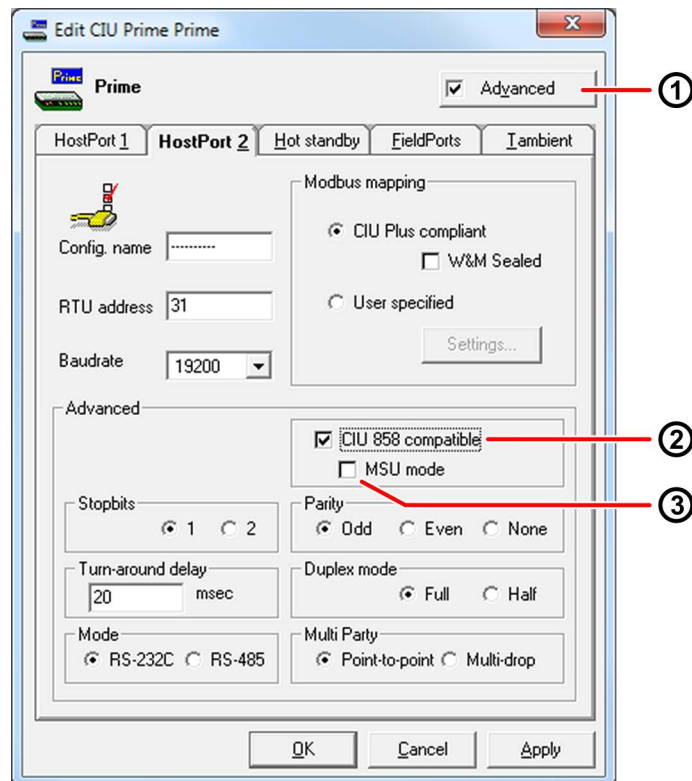

FIGURE 1-3
1. On the **HostPort 2** tab, select the **Advanced** option (see FIGURE 1-3, 1).
2. Select the **CIU 858 compatible** option (see FIGURE 1-3, 2).
3. If required, select the **MSU mode** option (see FIGURE 1-3, 3). Refer to section 1.3.3 for more information about MSU mode.